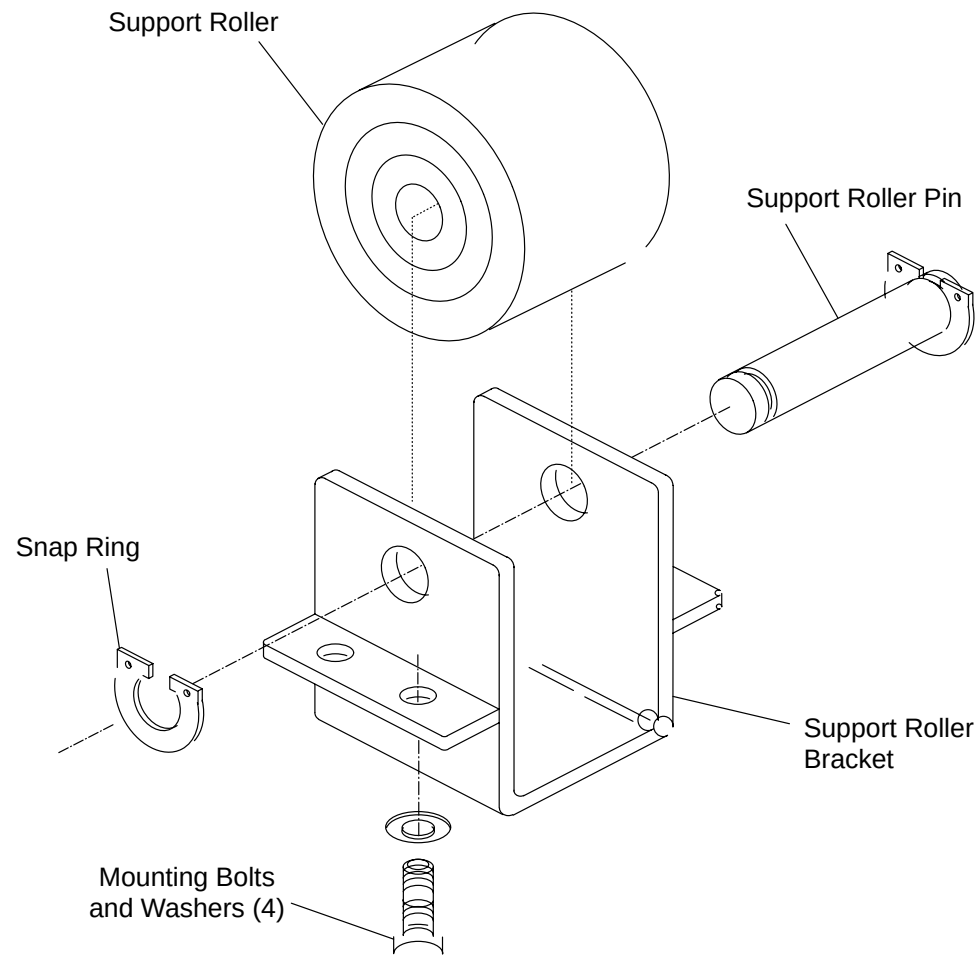

FIGURE 193 SUPPORT ROLLER ASSEMBLY
5. Remove the four Mounting Bolts and Washers from the Support Roller Bracket that fasten the Bracket to the sub frame. See Figure 193.